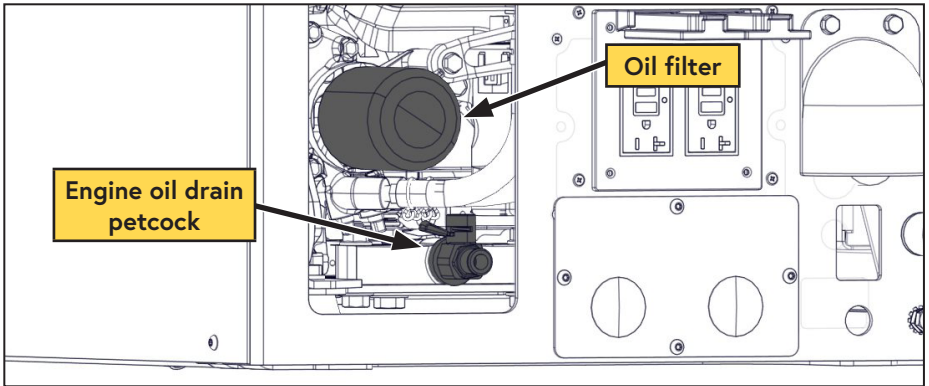

Figure 38 — Oil filter
- Clean the area around the engine and the oil filter to prevent contamination (Figure 38).